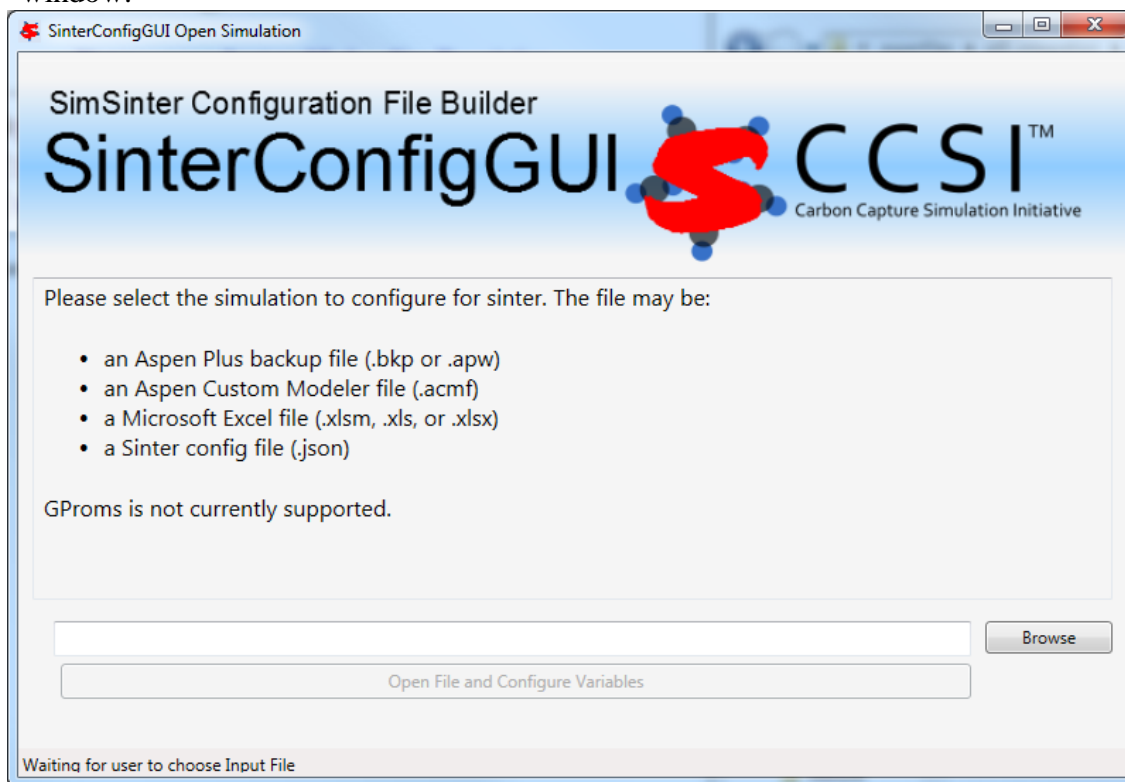

Figure 3: SinterConfigGUI Open Simulation Window
3. The SinterConfigGUI Open Simulation window displays as shown in Figure 3. Click “Browse” to select the file to open and then click “Open File and Configure Variables” to open the file. The user can either open a fresh ACM simulation (.acmf file) or an existing Sinter configuration file. In these instructions, a fresh simulation is opened. It may take a few minutes after clicking the button to SinterConfigGUI to move on. It must open your simulator, so you must expect it to take at least as long as your simulator normally takes to open. For Aspen products that use a networked license server, this may take as long as a few minutes. During that SinterConfigGUI will remain on the Open